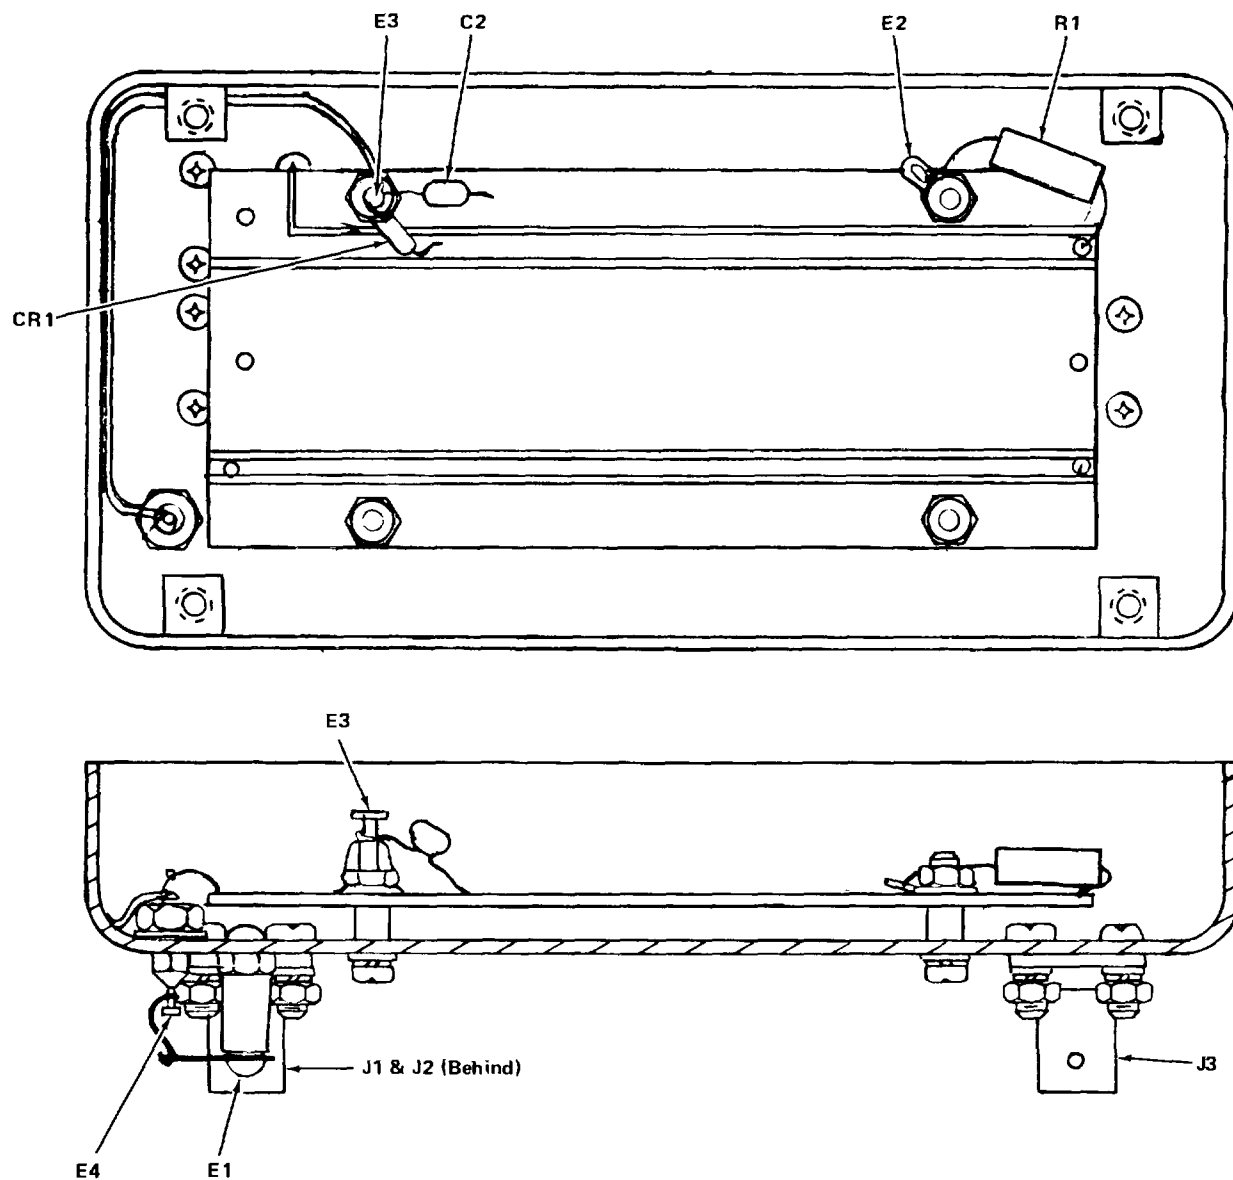

Figure 6-10. Directional Coupler, 1A4DC1 Parts Location Diagram
k. Directional Coupler (1A4DC1) Disassembly. To remove the directional coupler from the radio transmitter chassis, perform the following procedures. Further disassembly should be limited to removal of parts for repair or replacement. Refer to figure 6-10 for location of components to be replaced.
- (1) Remove four screws and washers holding the directional coupler (1A4DC1) in place.
- (2) Disconnect coaxial cables (J 1, J2 and J3) from the directional coupler.
- (3) Disconnect wiring from terminal lug (E1) and remove the directional coupler from the radio chassis.